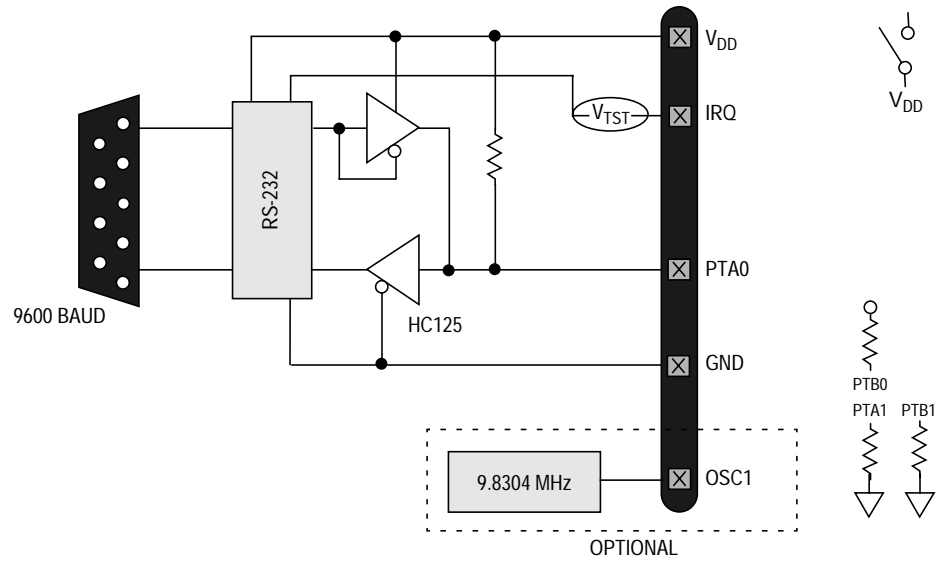
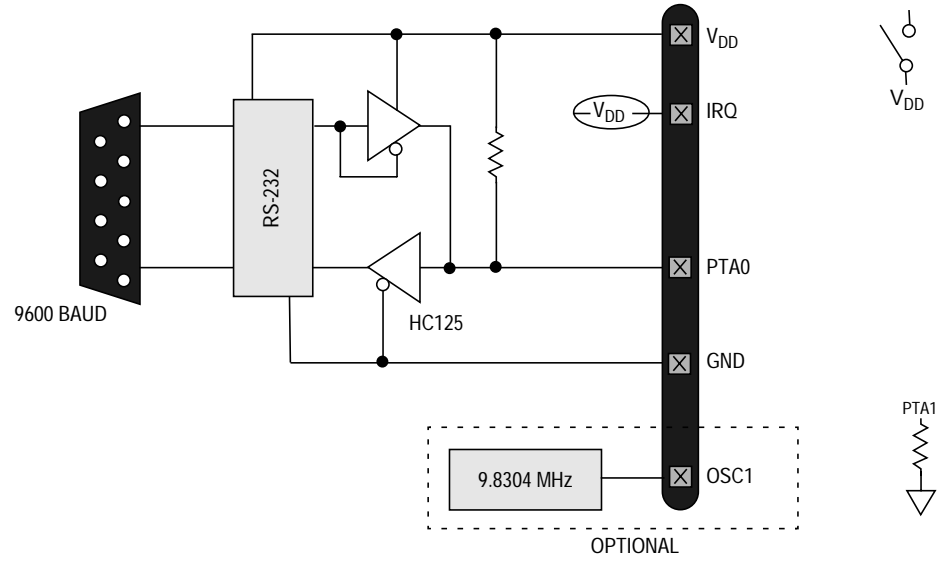
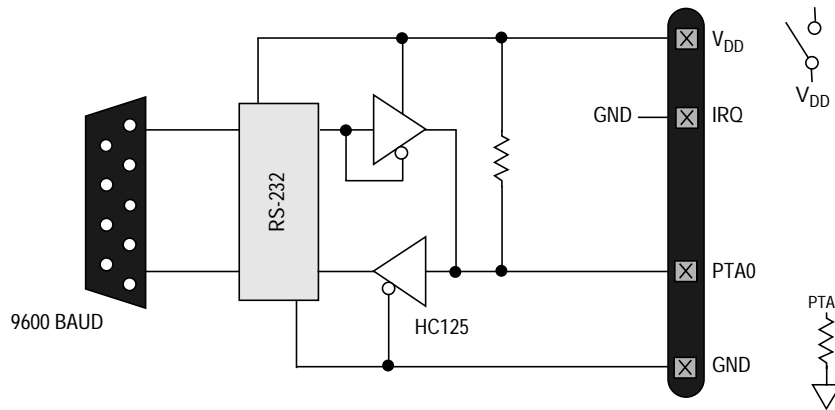

Figure 4. MC68HC908GR8 Standard Monitor Mode (9.8304 MHz)
Figure 5. MC68HC908GR8 Forced Monitor Mode (9.8304 MHz)
Figure 6. MC68HC908GR8 Forced Monitor Mode (32.768 kHz)
- c. RS-232 communications circuit. Also needed is a 5-volt power source to power this circuit. (see Figure 4, Figure 5, and Figure 6)
2. Connections (see Figure 4):
- a. Blank part with oscillator value from Table 2. See Figure 5.
- b. Blank part with 32.768-kHz oscillator. See Figure 6.